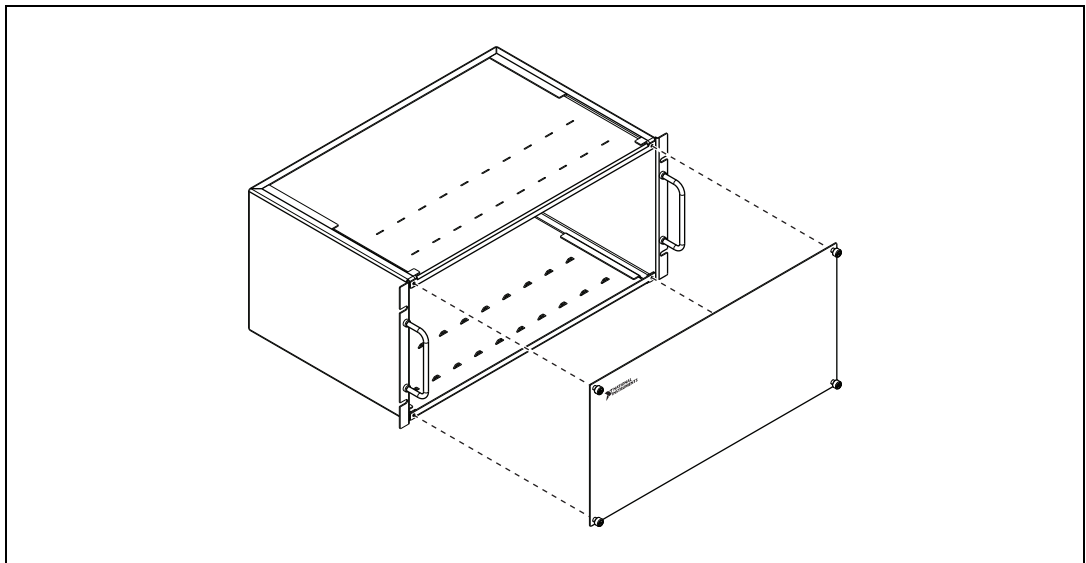

Figure 7. Installing the Front Cover
8. Install the front cover as shown in Figure 7.